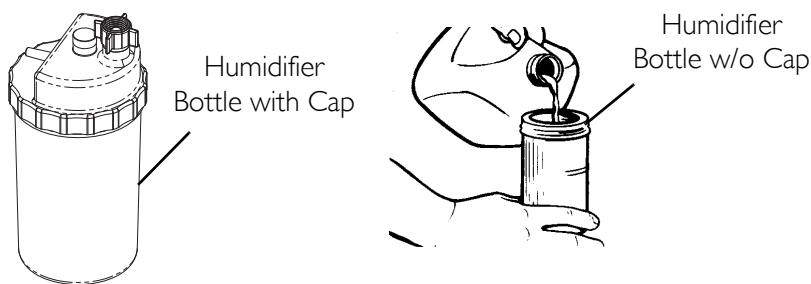
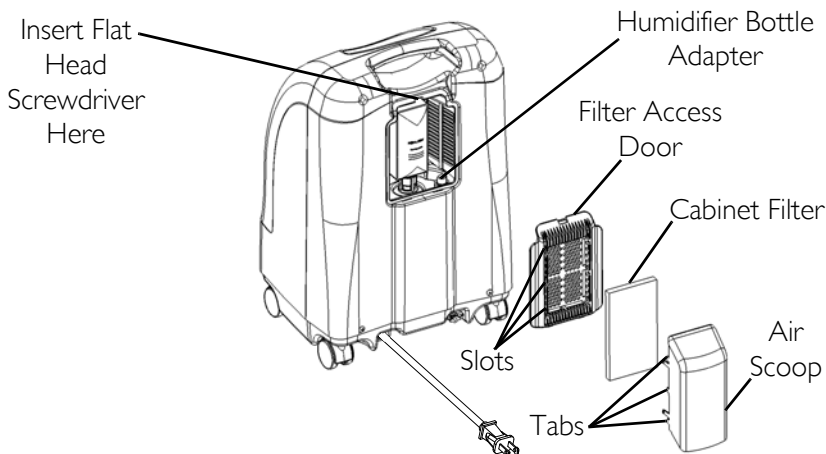
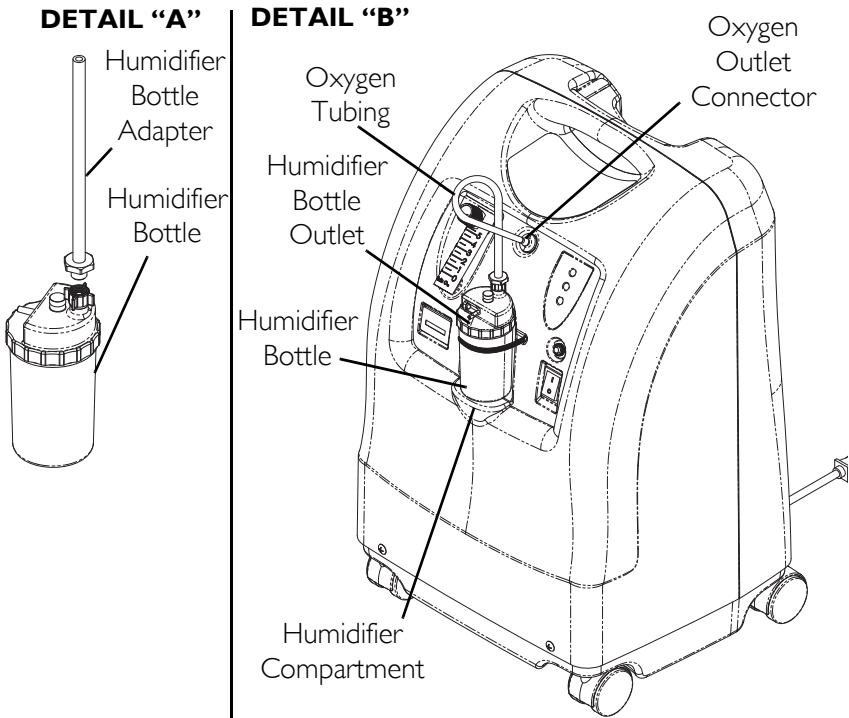

FIGURE 6.1 Filling the Humidifier
FIGURE 6.2 Humidifier Bottle Adapter
FIGURE 6.3 Humidifier Compartment
NOTE: For this procedure, refer to FIGURE 6.1, FIGURE 6.2 on page 19, FIGURE 6.3 on page 21.
3. Insert a flathead screwdriver in the plate groove on the top edge of the filter access door and gently pry the filter access door off (FIGURE 6.2).
4. Pull up and remove the humidifier bottle adapter (FIGURE 6.2).
6. Attach the humidifier bottle adapter to the humidifier bottle by turning the wing nut on the humidifier bottle counterclockwise until it is securely fastened. See Detail "A" in FIGURE 6.3.
- When placing the humidifier bottle in the compartment on the concentrator, attach the humidifier bottle/adaptor tube to the oxygen outlet connector on the concentrator. See Detail “B” in FIGURE 6.3.
8. Attach the patients’ nasal cannula supply tube to the humidifier bottle outlet. See Detail “B” in FIGURE 6.3.